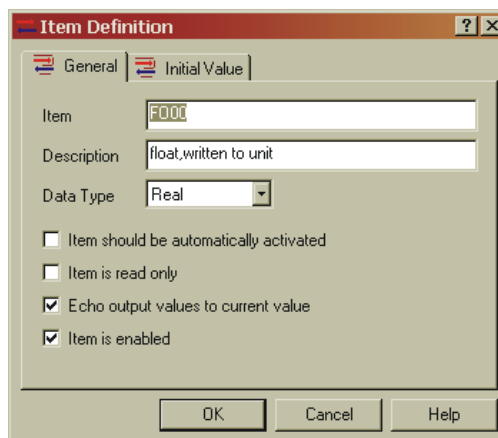

FIG. 206: ITEM DEFINITION/ENTERING FO00
- Step 18. Click on Item. The Item Definition dialog box appears. (See Fig. 206)